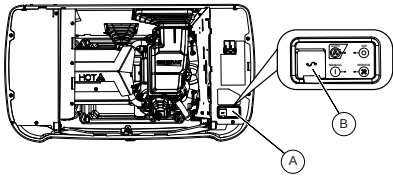

Figure 3-7. Generator Control Panel
See Figure 3-7. The control panel interface (A) is located under the enclosure lid. Open lid as directed in .